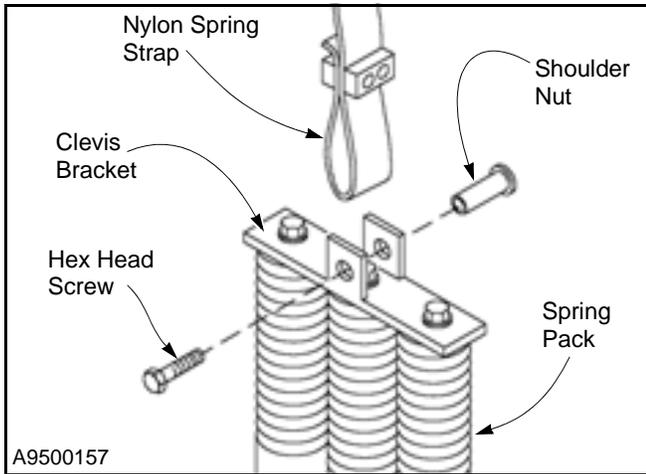

Figure 67
11. Attach the loop end of the new spring strap to the spring pack using the saved hardware. Make sure the strap is not twisted. (See Figure 67.)